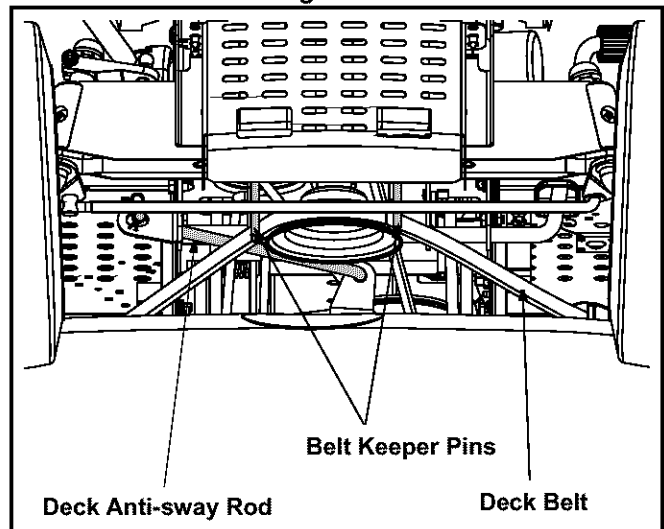
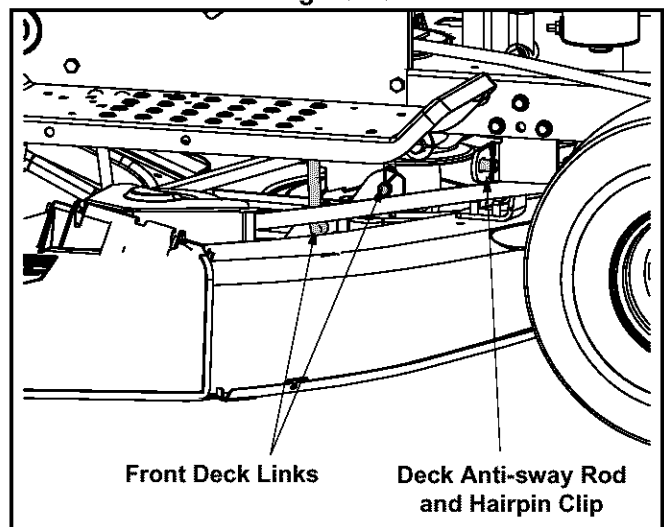

Figure 16
Figure 17
- Locate the two belt keeper pins, found on either side of the engine pulley, and use a 1/4-inch socket wrench to remove them from the lower frame. See Figure 16.
- Locate the deck anti-sway rod and front deck links found near the front of the cutting deck. See Figure 16 & Figure 17.
- Locate the two belt keeper pins, found on either side of the engine pulley, and use a 1/4-inch socket wrench to remove them from the lower frame. Refer to Figure 16.